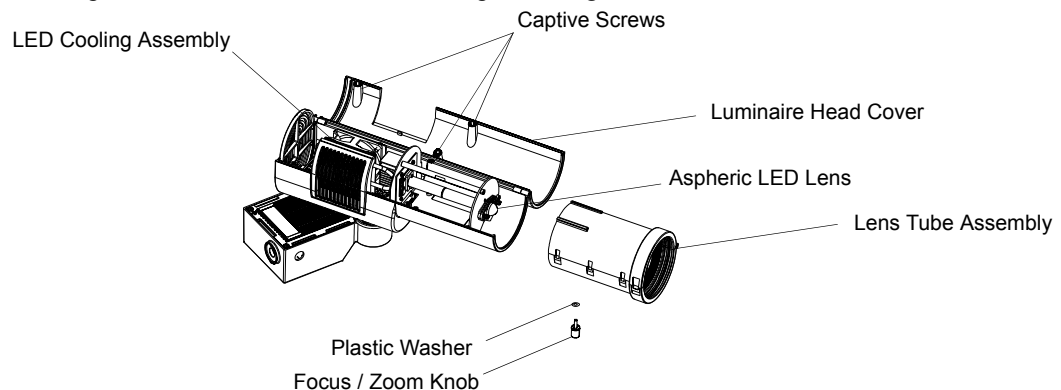

Figure 6: PL1 LED Luminaire Lens Tube Assembly
- Step 6. As illustrated in **Figure 6**, unscrew locking focus/zoom knob by hand and remove. Be sure not to lose washer or spring (that resides inside of knob).